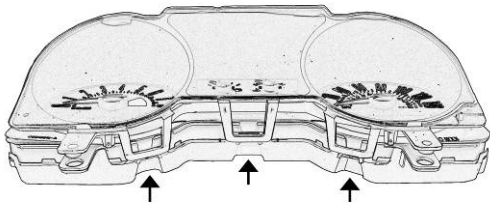

Figure 4
- A. Release the 3 holding tabs at the bottom of the cluster and the 2 holding tabs at the top of the cluster (see figure 4 & 5). Then pull the Bezel Lens from the cluster by lifting straight up off of the unit.